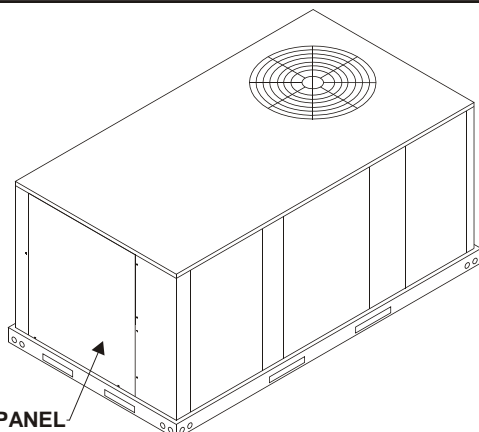

Figure 1
3. Remove the rooftop unit horizontal return air access panels. Also remove any hoods and/or power exhaust equipment. **If economizer is installed it MUST BE removed.** Discard hoods, power exhaust equipment, and horizontal return air panels. **See Figure 1.**